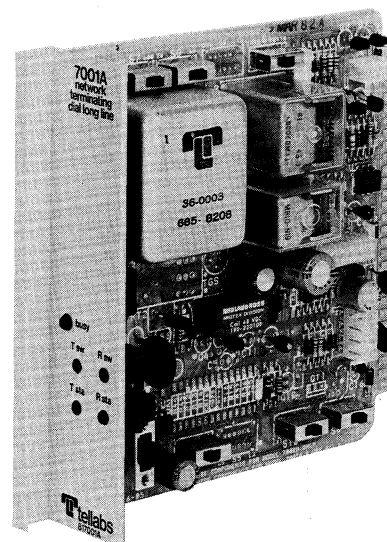

figure 1. 7001A Network Terminating Dial Long Line module
1.01 The 7001 Dial Long Line module and the 7001A Network Terminating Dial Long Line module (figure 1) each regenerate signaling and supervision to increase the range of a loop-start CO or PBX line circuit in applications where a station served by a metallic facility is located beyond the normal range of the switching equipment. An integral repeat coil extends a separate source of locally derived loop current toward the station. On calls to the station, the 7001 or 7001A either bypasses ringing generated at the switching equipment or repeats ringing (starts and applies local ringing generator), as selected by switch option. When the station answers, the 7001 or 7001A trips ringing. On calls from the station, the 7001 or 7001A detects and regenerates off-hook states and repeats dial pulsing. The two modules are functionally identical, differing only in their card-edge connector pin assignments; those of the 7001A conform to the universal wiring scheme of the Tellabs 262U Universal Network Terminating System. Thus, in the remainder of this Practice, the 7001 and 7001A will be collectively referred to as the 7001(A) module in those areas where the information being given applies equally to both modules.